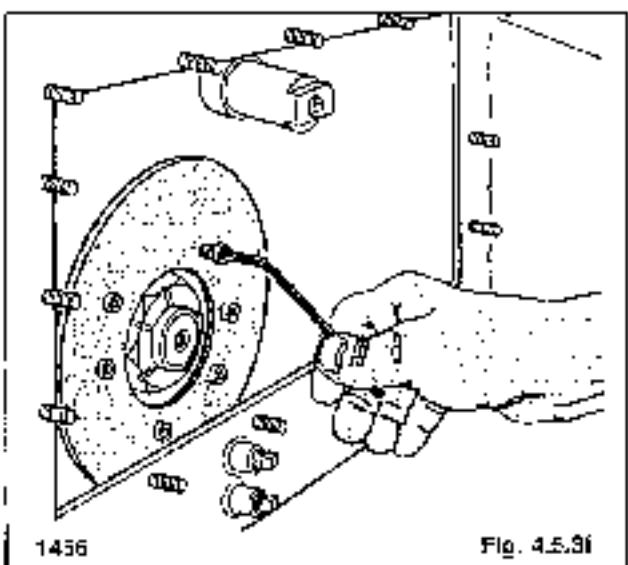

Fig. 4.5.3f
10. Remove the brake disc from the torque motor sprocket (fig. 4.5.3f).